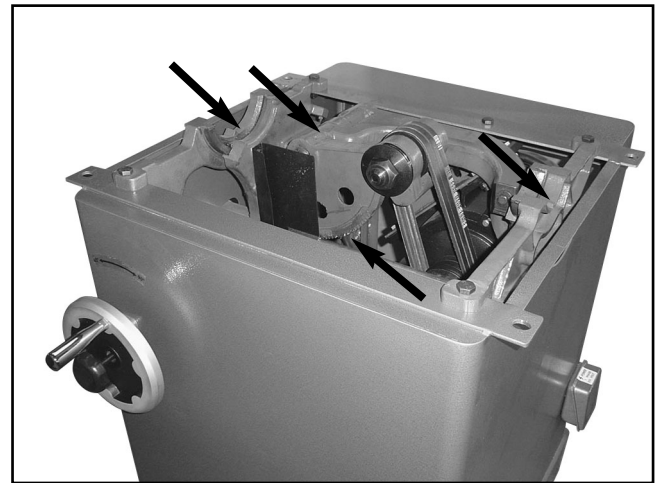

Figure 43. Lubricate these areas.
3. **The two worm gears** should be lubricated with an automotive wheel bearing grease. The blade angle worm gear is not shown in **Figure 43**.